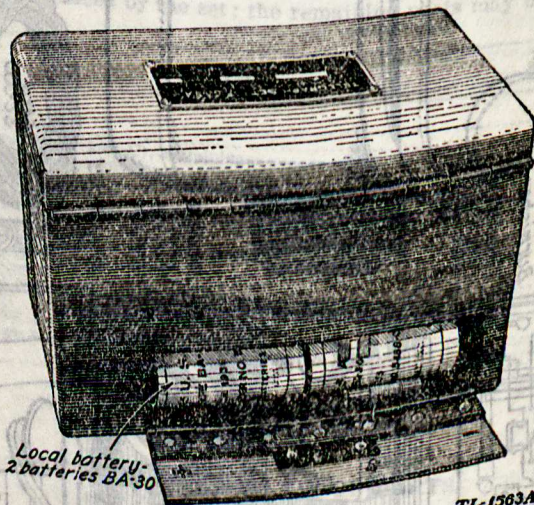

FIGURE 2.—Telegraph set TG-5-A, local battery housing and its batteries.
10. **Box.**—This box is made of aluminum alloy and is painted olive drab. It fits into the case and contains all other parts of the set. Its cover is hinged at the back and has attached to its exterior the name plate of the set. A sponge rubber pad which holds the line battery in place and a circuit diagram are mounted on the inside of this cover. When the cover is closed, it overlaps and holds the front closed. The front is a tray, hinged at the bottom, with a support on one end which holds the front level with the floor of the box when opened. Mounted on this front is the key J-41. The front is held closed by a catch which engages with a catch plate on the cover and which is released by pressing the spring button on the outside of the front. In addition to the parts mounted in the box and described in succeeding paragraphs, the box contains near its top a line battery cup, a receptacle for the headset, a burnisher in a leather scabbard, and near the bottom of its back, the local battery housing shown in figure 2. This housing is closed by a door marked + at one end
- b.* Open the local battery housing and install two batteries BA-30 as indicated in figure 2, being sure that the top of the right-hand one is in contact with the bottom of the left-hand one. Close and secure the door. If batteries BA-30 are not available, see instructions in *e* below. If the bell rings, open the box and set the SPRING and GAP pointers at 0. If it continues to ring, increase the SPRING pointer setting one notch at a time until the ringing stops.